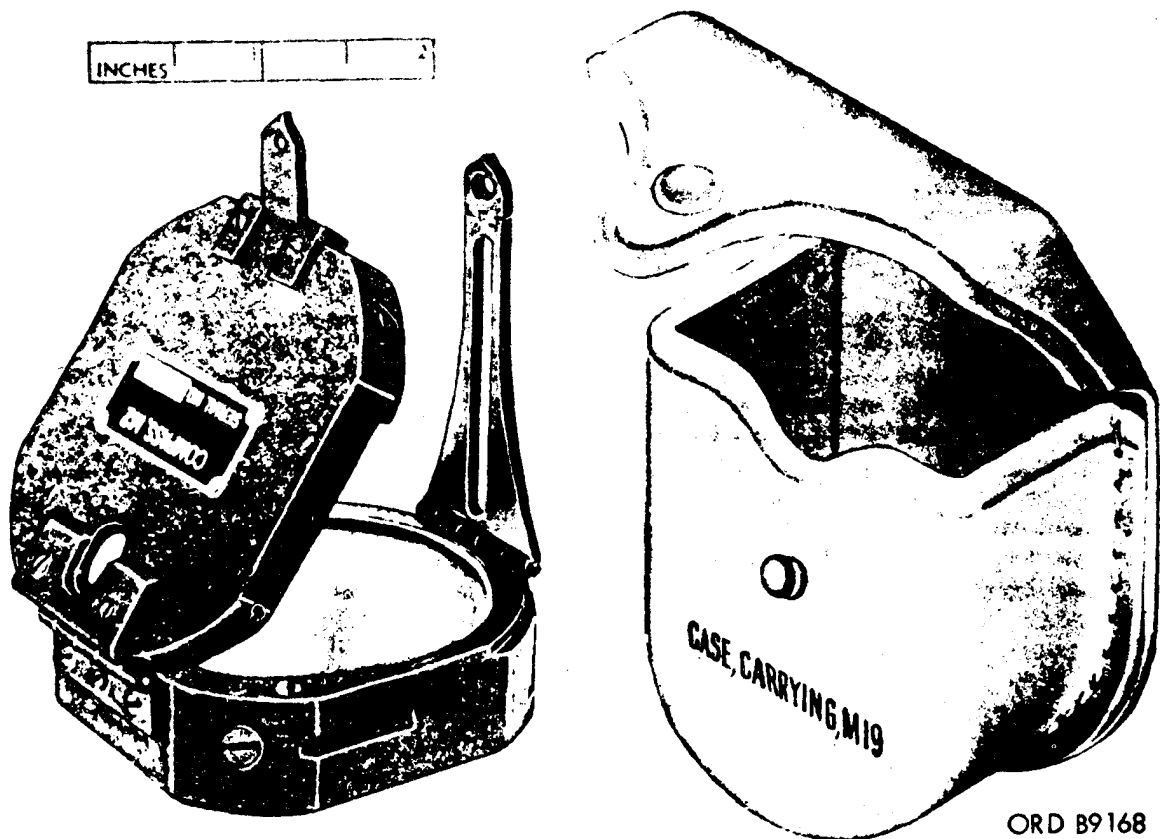

Figure 1. Compass M2 and carrying case M19.
a. *General.* Unmounted magnetic compass M2 (figs. 1 and 2) is a multiple purpose instrument applicable to obtaining clinometer, angle of site, and azimuth readings. The body of the compass is dustproof and moisture proof, and is made of nonmagnetic material except for the magnetic needle and its pivot. When the cover is closed, the magnetic needle is automatically lifted from its pivot to protect the pivot point and jewel bearing. The jewel bearing is agate. The compass is provided with an angle of site scale and an azimuth scale. The azimuth scale may be rotated approximately 1,800 mils. The compass is equipped with circular and tubular levels. In place of a telescope, the compass employs front and rear leaf
Leather carrying case M19 (fig. 1) is the only piece of equipment issued with the compass M2. The case consists of a three-piece assembly into which the compass fits and has a flap or cover which is an integral part of the back piece. This bends over the case and is fastened to the front with a snap button. The loop of the carrying case is riveted to the back side of the case (not shown in the illustration indicated).